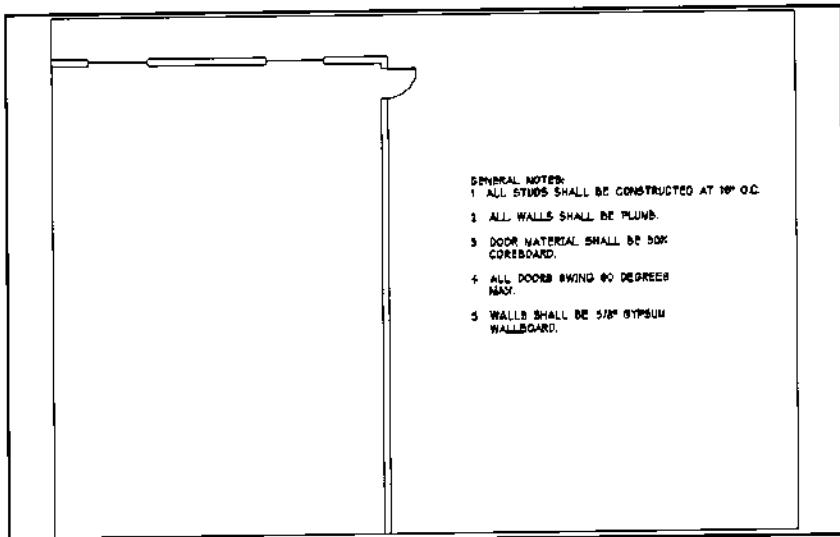

Figure 4.
4. The note appears with X-HAND1F as the current text style, as shown in Figure 4.
- > Pick start point of Align/Center/Fit/Middle/Right/Style: [**pick a point to begin the revised text file as shown in Figure 4**]